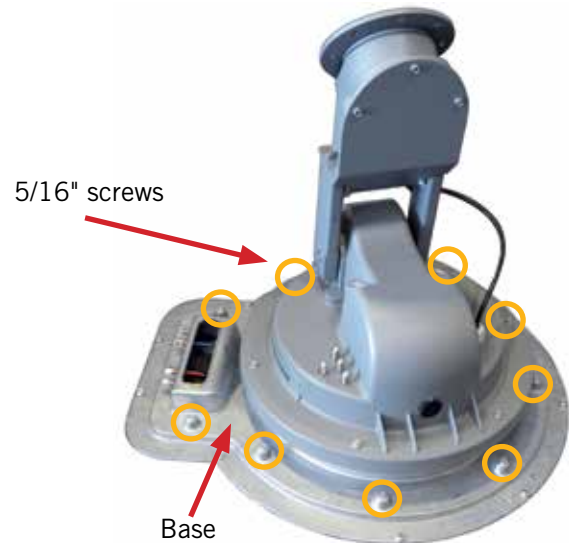

Figure 17
E) You can now reinstall the nine 5/16" screws to the transition plate (Figure 17).